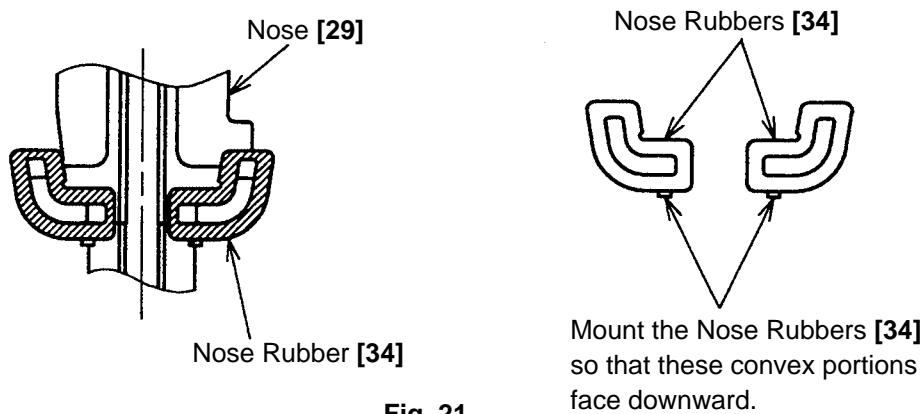

Fig. 21
- Be careful of the mounting direction of the Nose Rubber [34]. As shown in Fig. 21, mount the two Nose Rubbers [34] so that their convex portions face downward.